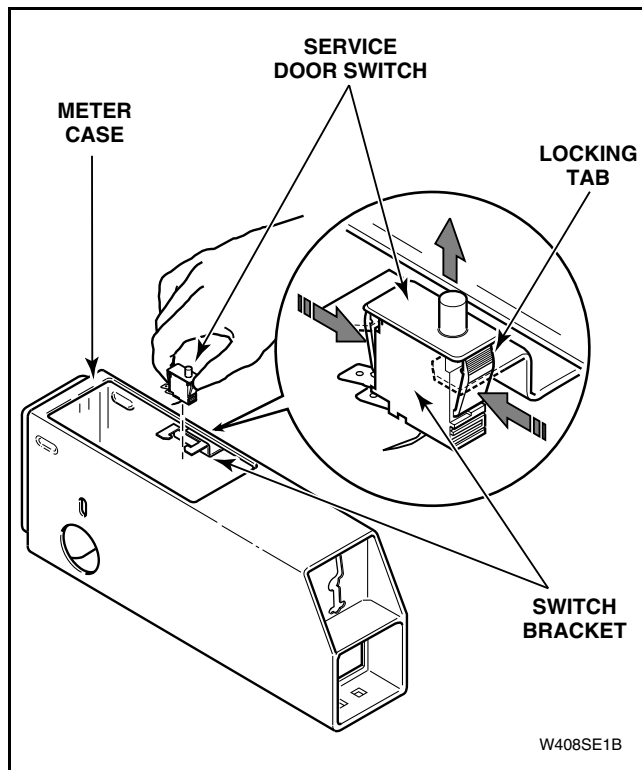

Figure 9
- (2) Disconnect wire harness from coin drawer switch and disconnect coin drop at disconnect plugs.
- (3) Press in on locking tabs of service door switch and remove switch from bracket on meter case, as shown in *Figure 9*.